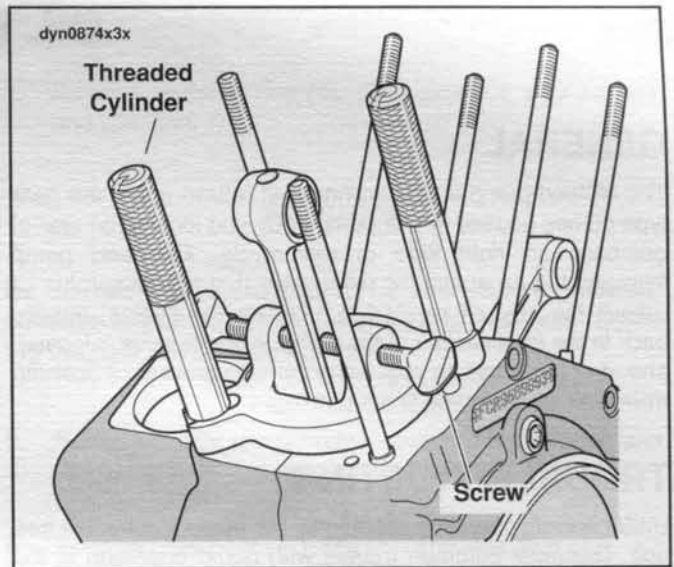

Figure 3-40. Connecting Rod Clamping Tool HD-95952-33B
- See Figure 3-40. To use CONNECTING ROD CLAMPING TOOL, Part No. HD-95952-33B, place the tool (Part No. 95952-1) over the studs taking care not to scratch or bend them. Install the threaded cylinders (Part No. 95952-2) to the studs to secure the tool in place. Tighten the two screws against the connecting rod.